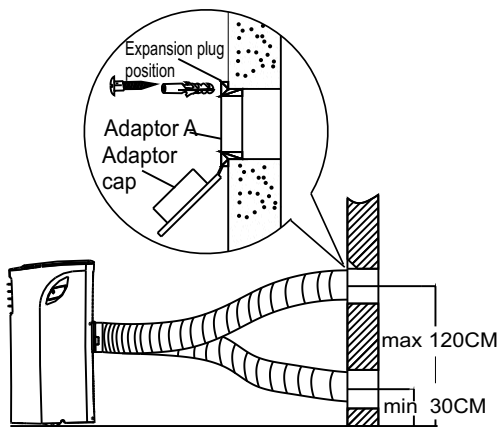

Fig. 19
1. Prepare a hole in the wall. Install the wall Exhaust adaptor A onto the wall(outside) by using 4 expansion plugs and wooden screws, be sure to fix thoroughly. (See Fig. 19)